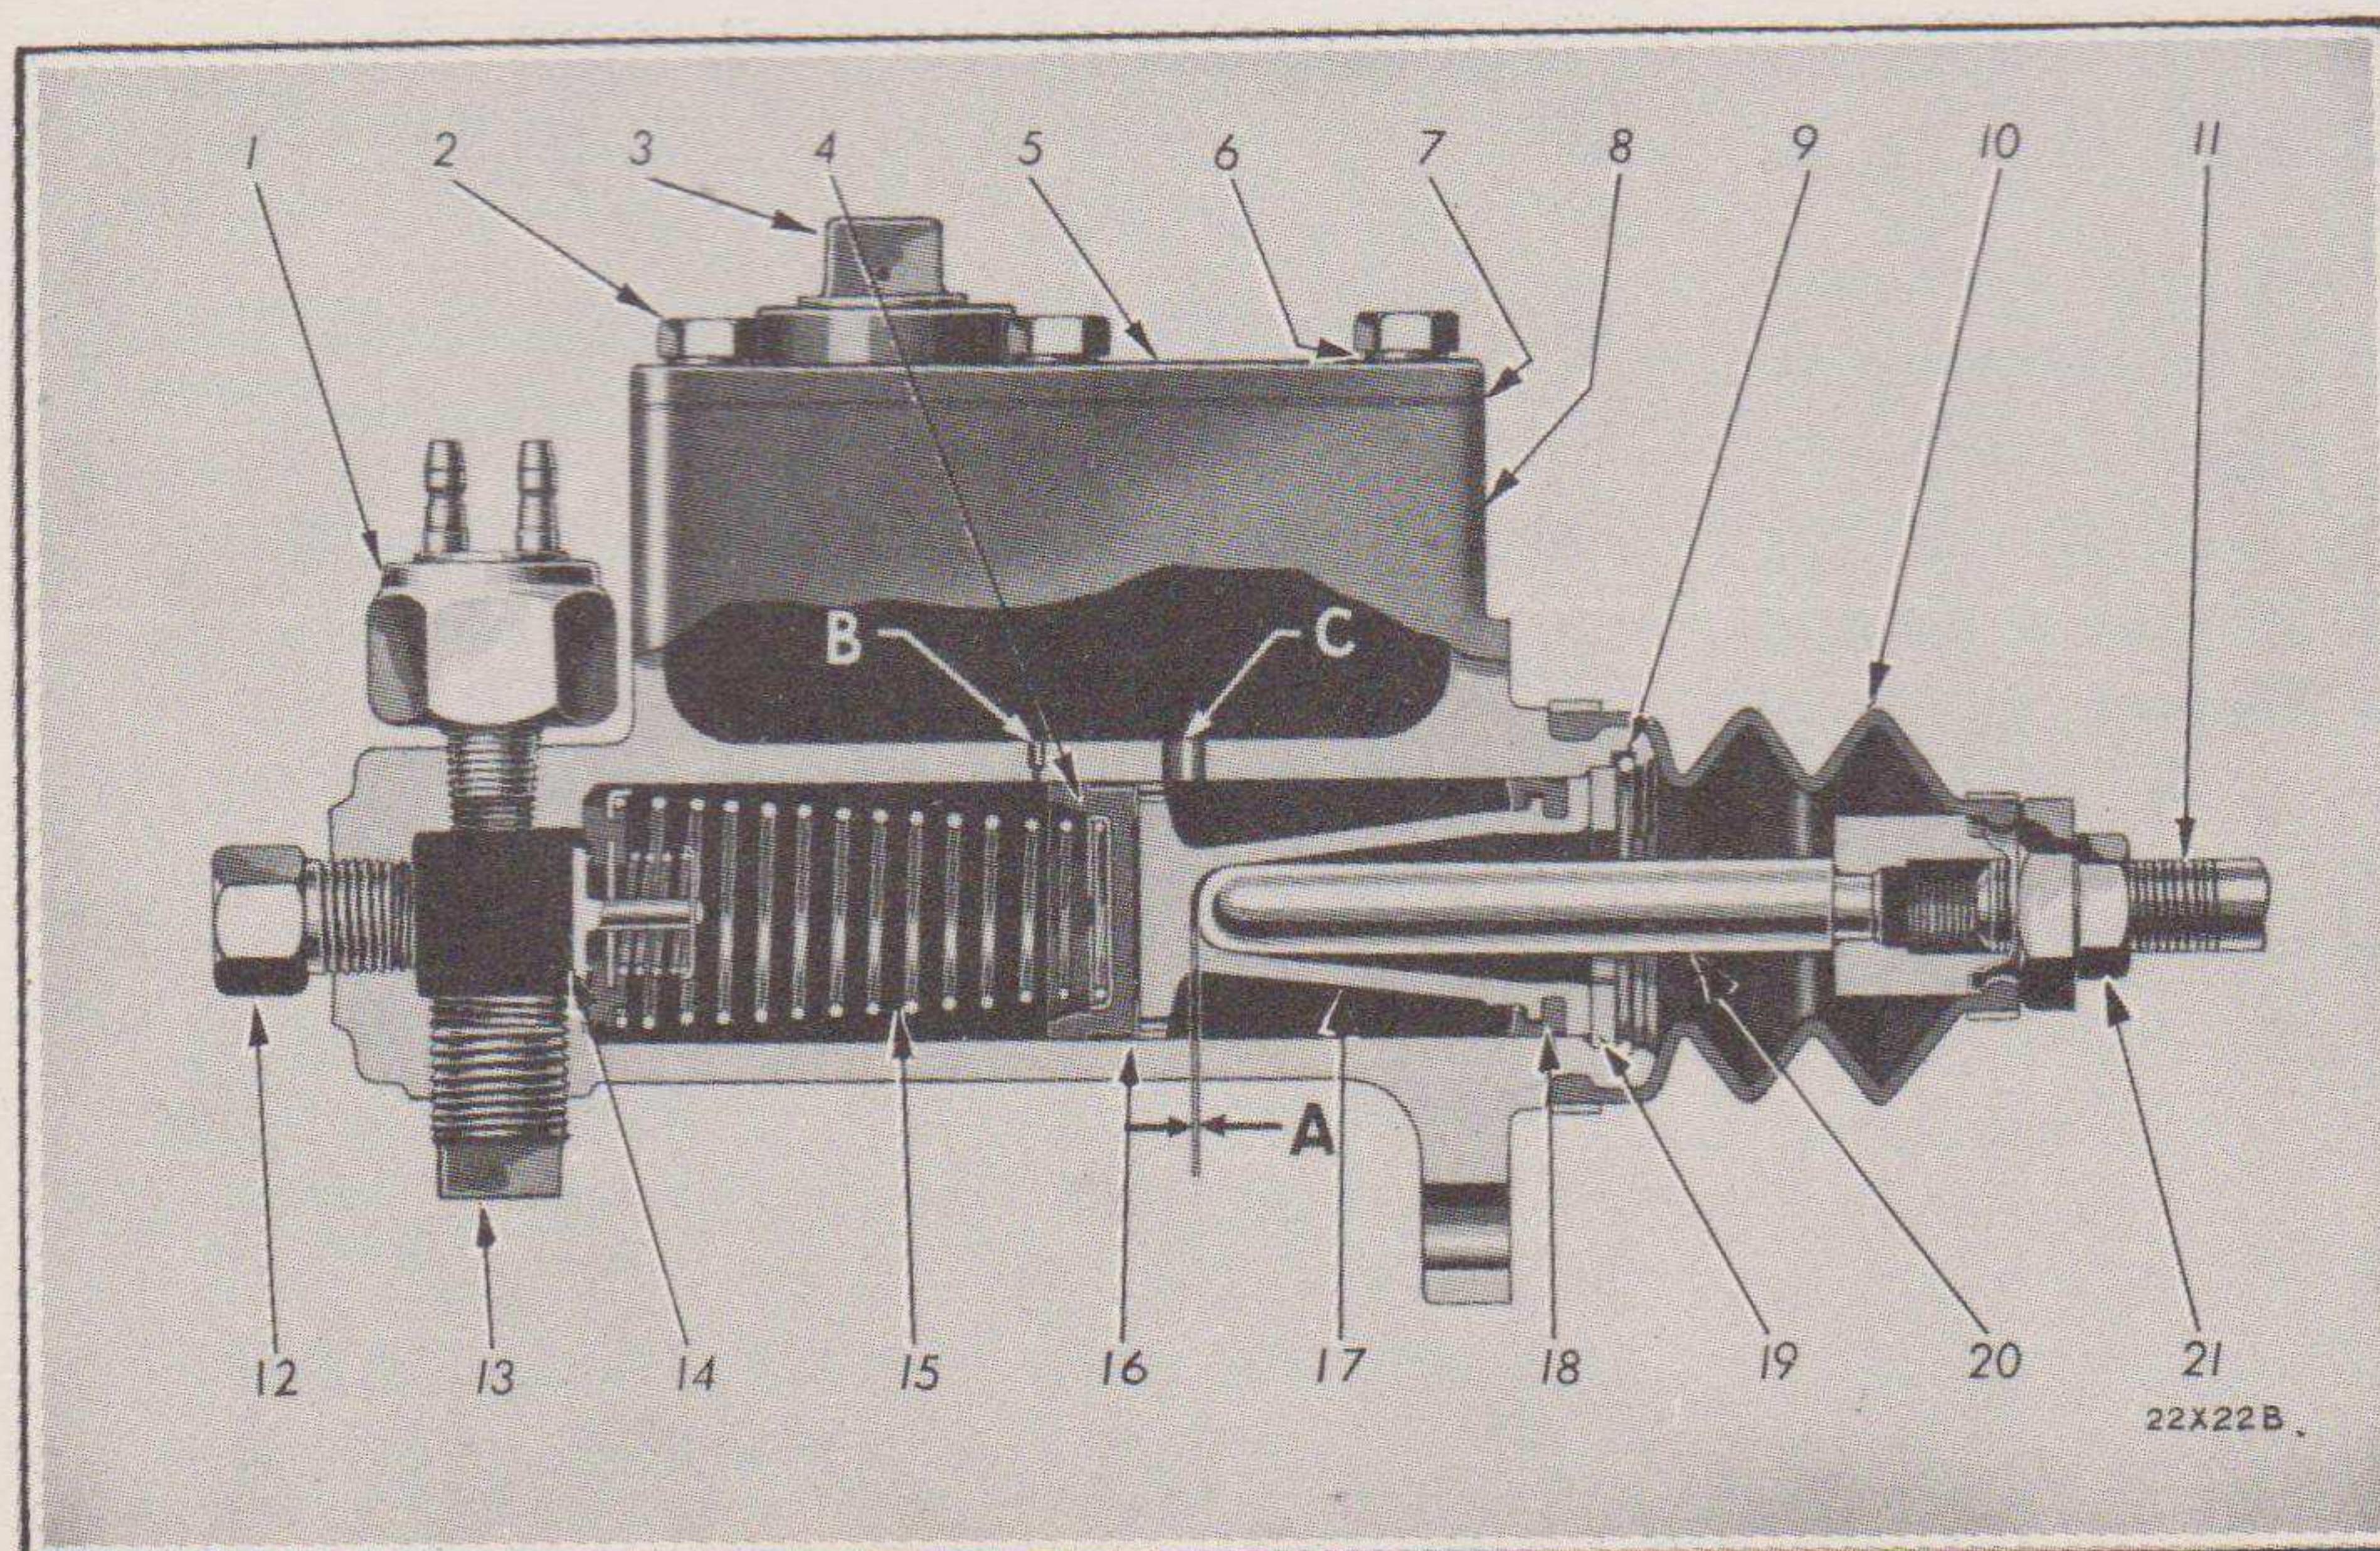

Fig. 83—Brake Master Cylinder (assembled view)
IMPORTANT: Unless replacement of a piston push rod or push rod end is necessary, do not change adjustment of the end piece. This is seldom, if ever, required. The factory adjustment is correct and permits the piston cup to just pass the relief port (B, Fig. 83) and yet avoid covering the supply port when the pedal is in the released position.
- (g) Remove the lock ring in the open end of the cylinder. See Figs. 83 and 84.